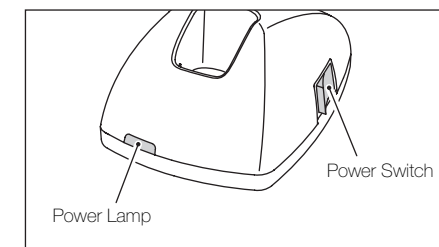

Fig. 5
3. Turn on the power switch. At this time, check that the power lamp lights up. (Fig. 5)